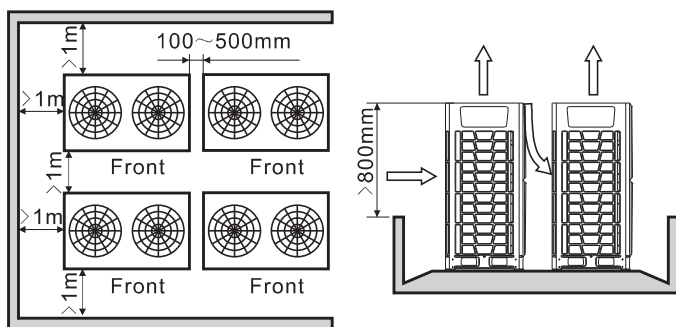

Fig. 3.11 2 rows
- 5) When outdoor units are higher than surrounding barriers and they will be arranged in more than 2 rows, please see Fig.3.11.